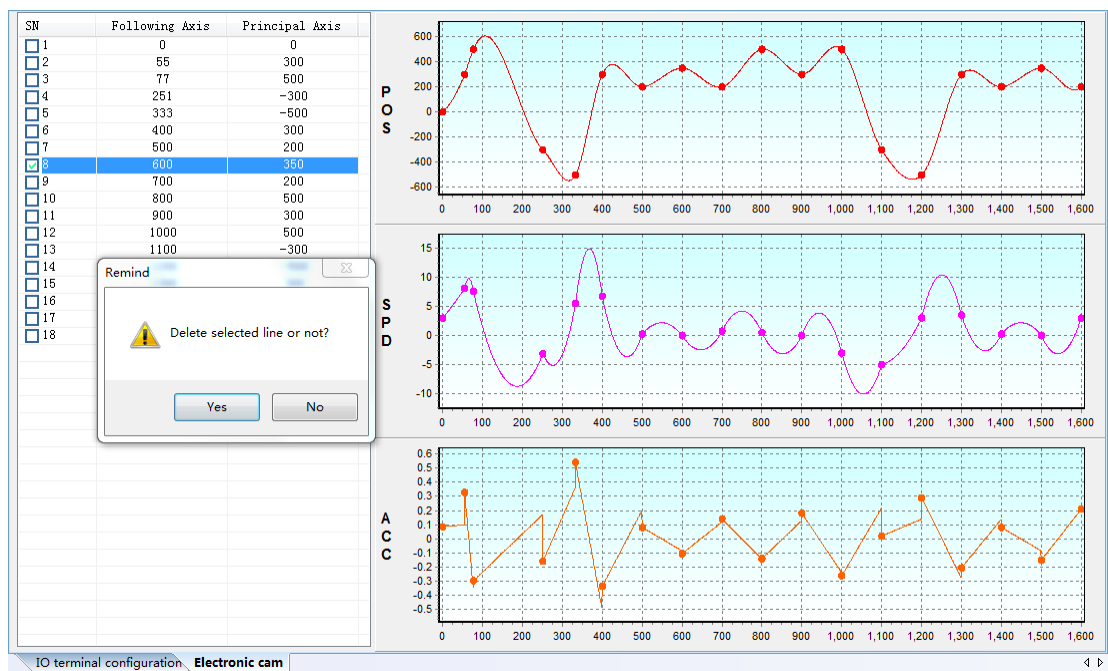

Fig 3-1-27 Delete multi-row
- (2) Delete selected row: click serial number box to select row, right click to select [Delete number-selected row], click [YES]. (Fig 3-1-27)